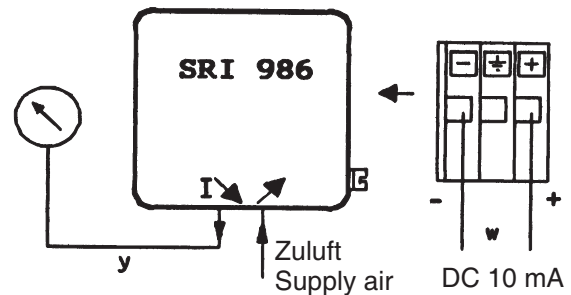

Fig. 24: Test circuit for single acting positioner
- g) Connect the positioner as shown in the test circuit, fig. 24, preset supply air to 1.4 bar.